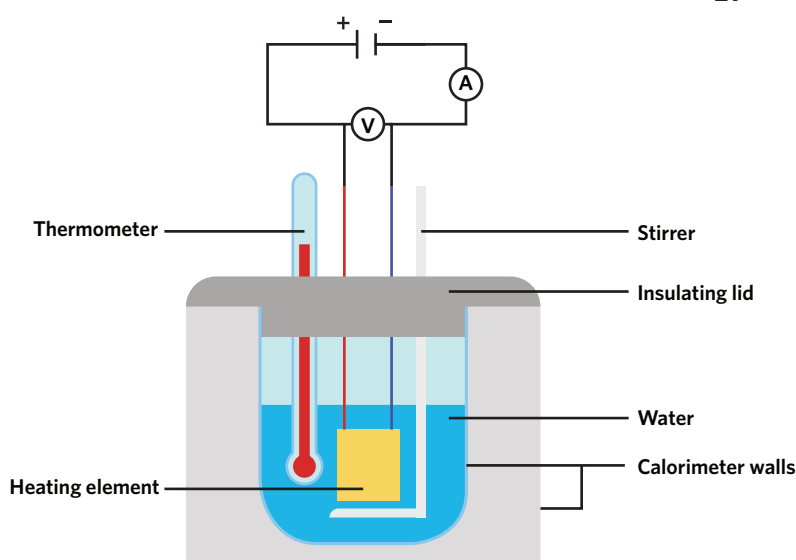

Figure 3 Heating element circuit diagram
1. Connect the calorimeter to an electrical heating element, as shown in figure 3.
4. Calculate the quantity of energy, q , in joules (J), passed through the heating element using the formula $q = VIt$, where V is the applied voltage in volts (V), I is the current in amperes (A), and t , in seconds (s), is the length of time for which the current flows.